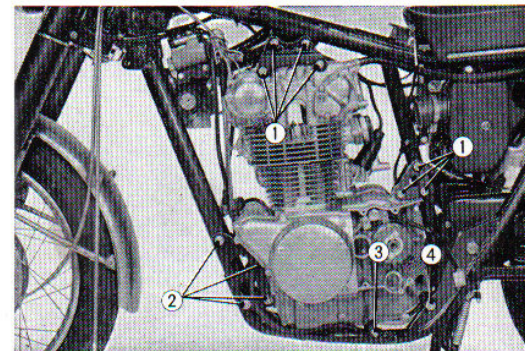

Fig. 3.8 Removing the engine
① Tachometer cable
11. Remove the 13 engine hanger bolts and dismount the engine from the left side. (Refer to Fig. 3.8)